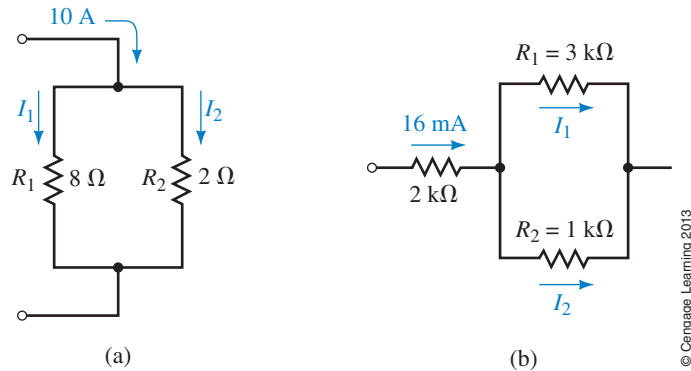

FIGURE 6-71
29. Use the current divider rule to find the currents I_1 and I_2 in the networks of Figure 6-71.